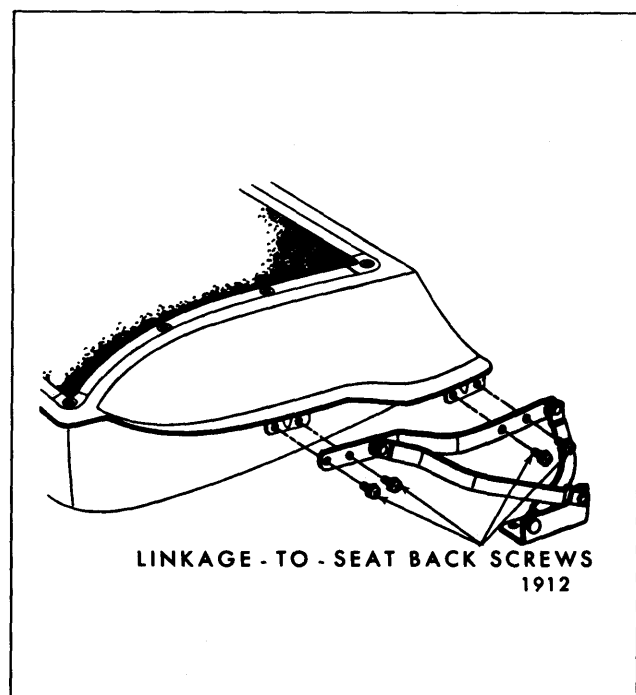
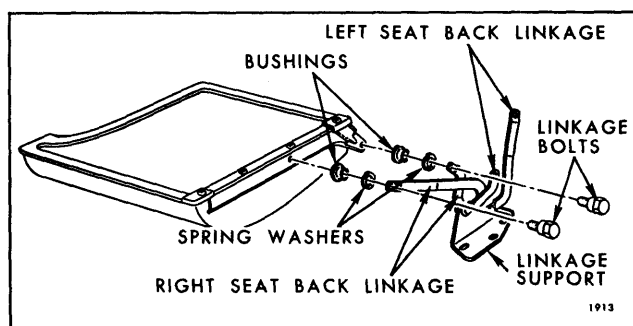

Fig. 15-63—Folding Second Seat Back Supports and Linkage (Full Width Seat)
Fig. 15-64—Folding Second Seat Back Inner Linkage and Support
4. To remove linkage from folding second seat back remove linkage-to-seat back panel attaching bolts and remove linkage - See (Fig. 15-63 for full width seat) (Fig. 15-64 for split seat).
5. To install, reverse removal procedure. If linkage was removed from split seat back, make sure bushings and spring washers are properly installed prior to installing linkage attaching bolts. (See Fig. 15-64).
2. Move folding second seat back forward just sufficiently to remove two lower linkage-to-seat back panel attaching screws. (See Fig. 15-63).
4. Remove two upper linkage-to-seat back panel attaching screws. (See Fig. 15-63).
4. Remove inner linkage-to-seat back bolts from both right and left seats (See Fig. 15-64); then carefully disengage inner linkage from seat backs and floor pan studs and remove linkage assembly.
5. To install, reverse removal procedure. Make sure bushings and spring washers are properly installed prior to installing linkage attaching bolts to both right and left seat back panels. (See Fig. 15-64).